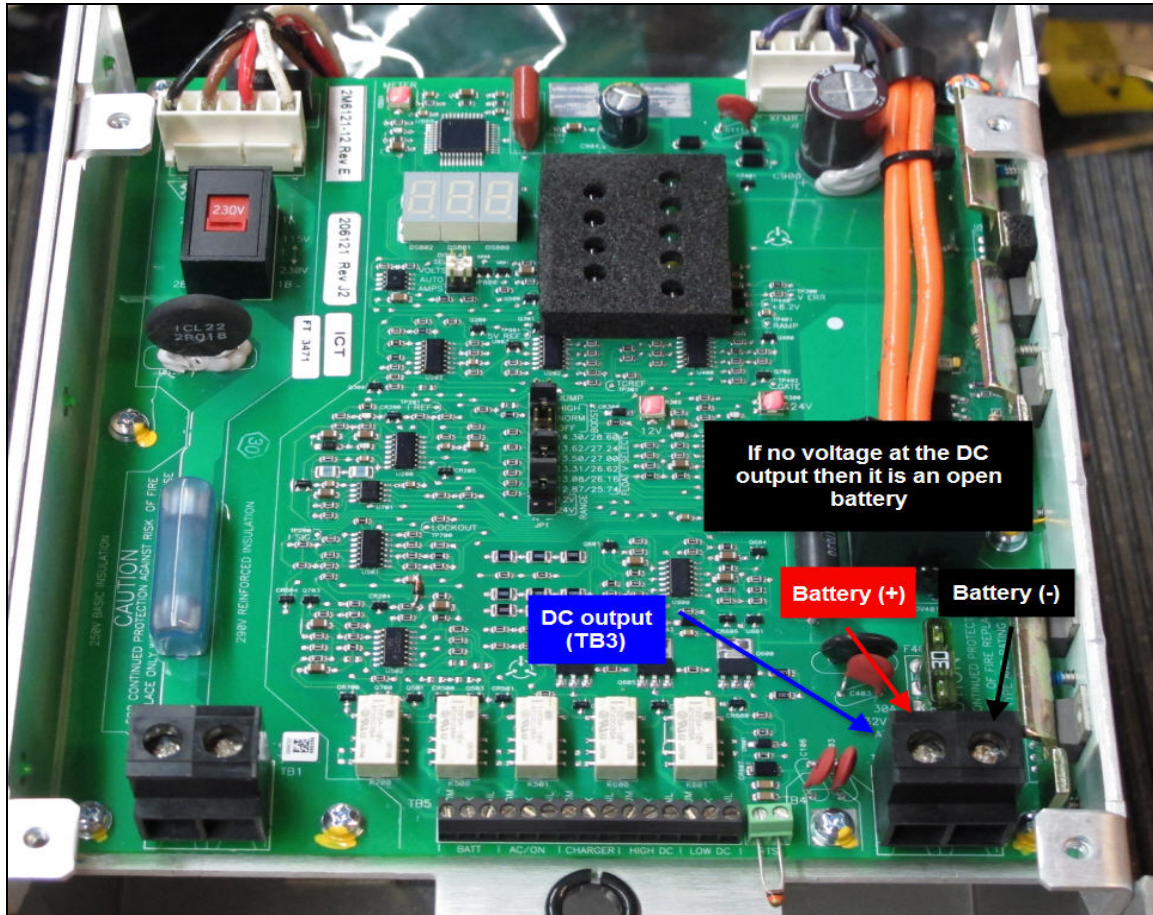

Figure 6
1. Battery Fault Possible Cause 1: Open battery (see Figure 6)